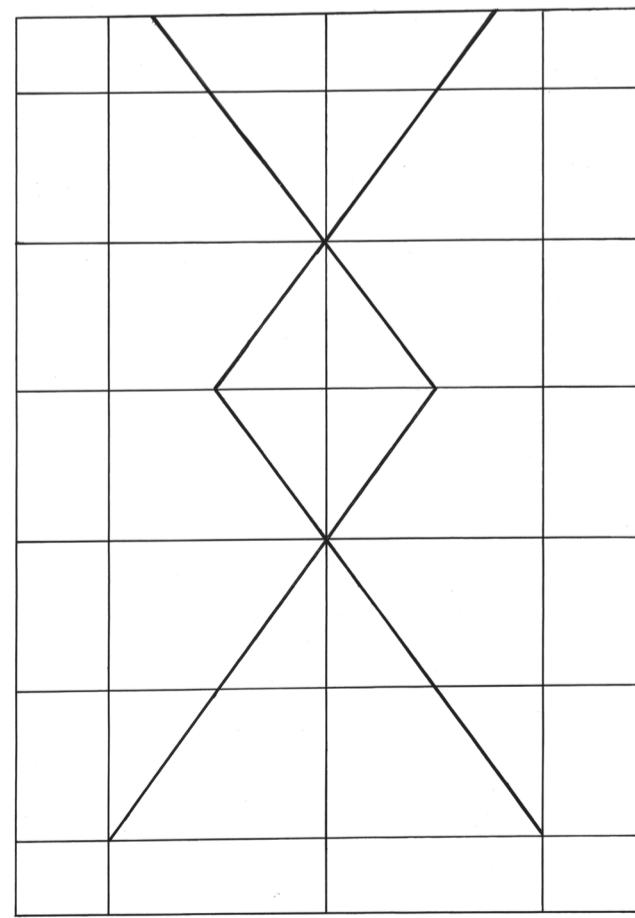

Figure 29: An ‘outline block’ drawing of a lever system
- Look at Figure 29 as an example. Start by drawing an **outline block** to work in.